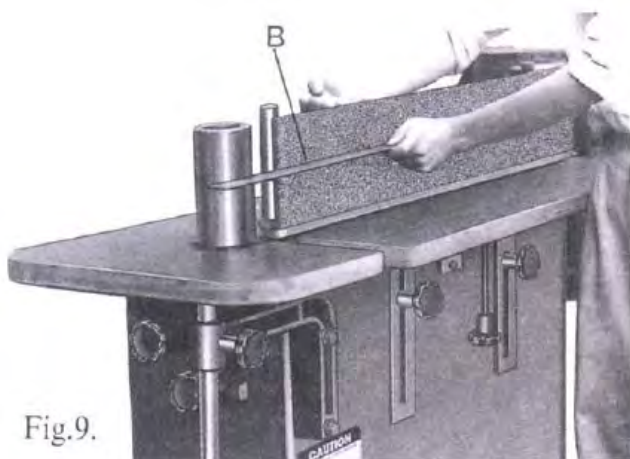

Fig.9.
4. Using a straight edge (B), Fig. 9, to measure the protruding distance between the surface of the steel platen and the two pulleys (i.e. motor contact wheel & idler pulley).
5. Tap, with hand, the steel platen, Fig. 9, until the protruding distance is 1/8" - 1/4". Remember that with the platen on both sides the distance from the motor contact wheel and the idler pulley should be the same.